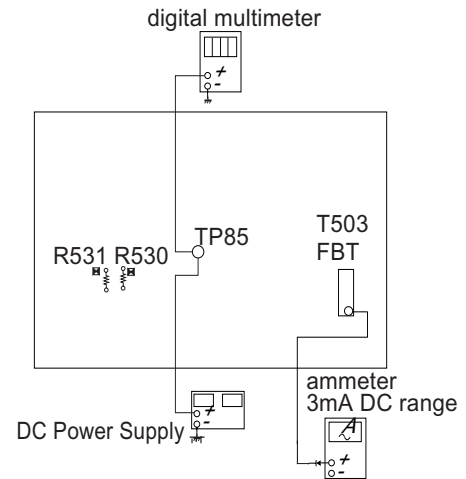

Figure 1
1. Connect the current meter between Pin 11 of the FBT (T503) and the PWB land where Pin 11 would normally attach (See Figure 1).
4. Connect the digital voltmeter and the DC power supply to TP85 and ground (See Figure 1).